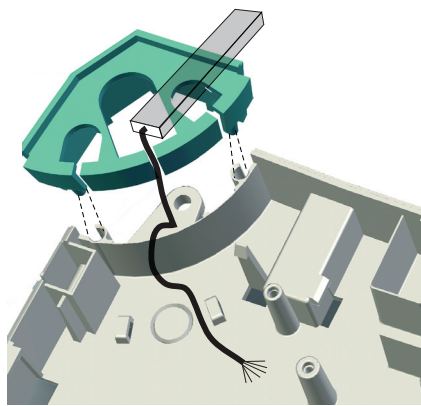

Figure 5 - With trunking-list
- Special corner elements are designed to be removed but then again hiding and sealing the cable entry when re-fixed again. Also ideal when mounting via trunking-list. See figure 5.